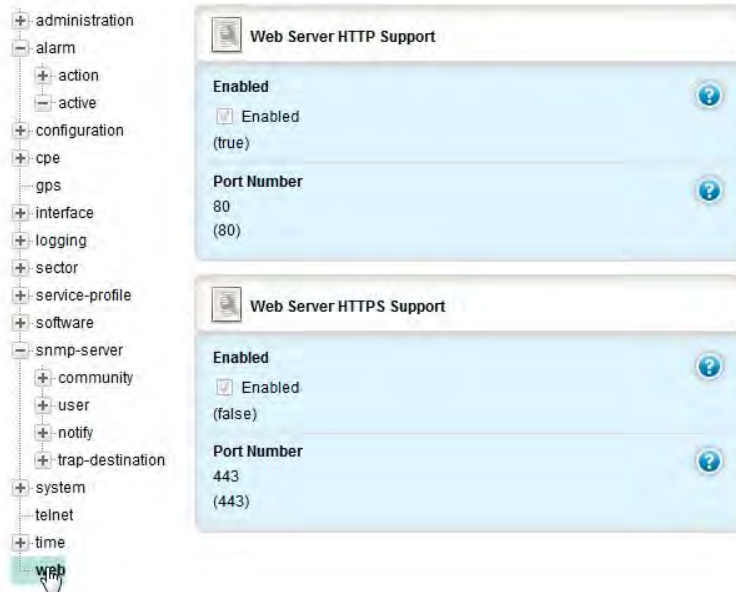

Figure 11 Web GUI Interface HTTP Support
2. A window will be displayed that provides an indication or not as to the Web Server HTTP Support (Figure 11).